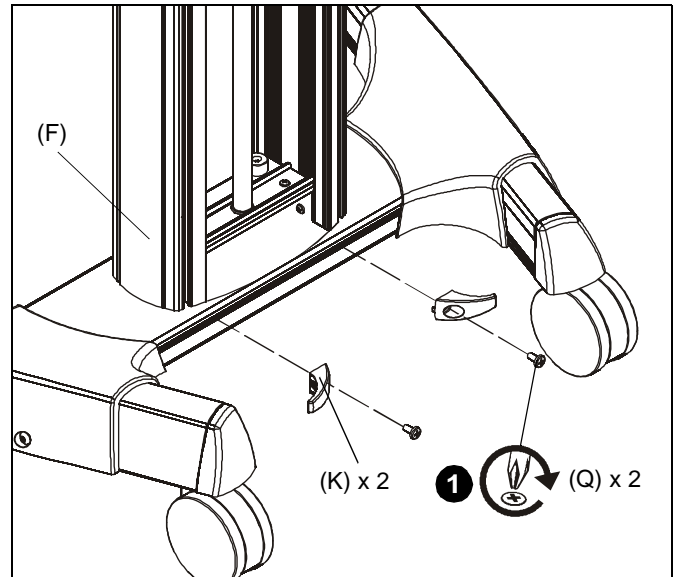

Figure 8
1. Use two 1/4-20 x 1/2" Phillips pan machine screws (Q) to attach two cable hooks (K) to bottom of column assembly (F). (See Figure 8)